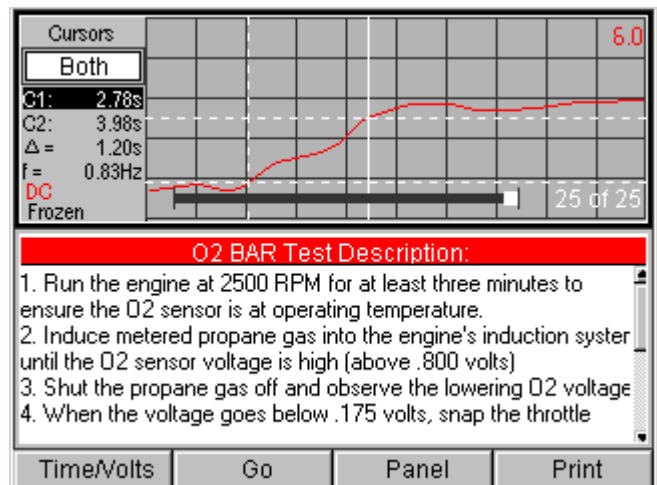

Figure 5.23: Component Test Screen - O2 BAR Test with Cursors
- Stops the readings (see Figure 5.23),